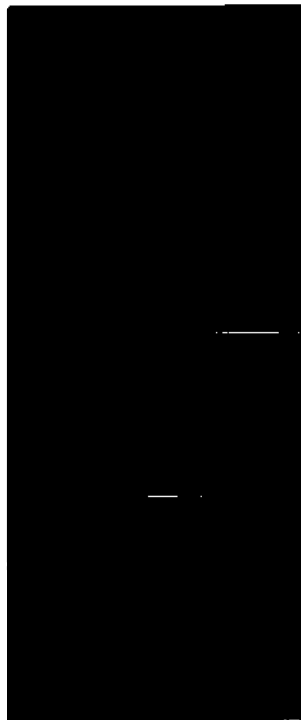

Figure 51. The preset parameters of scanning.
1. Open the preset list by clicking on the "Default" button in the upper left corner of the module. The text on this button may be different as it shows the name of the last applied preset (fig. 51).